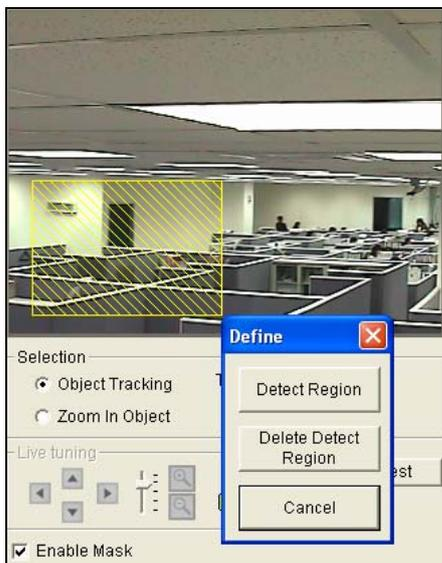

Figure 1-72
6. Select **Define Detect Region** from the drop-down menu. Use the mouse to outline a detection region in the right screen; you will be prompted to enter **Detect Region**. See Figure 1-72.